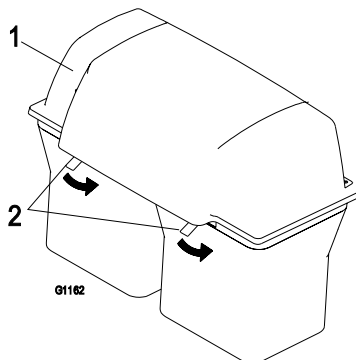

Figure 8
4. Lower the hood onto the bags. Then push down on both bagger retainer latches until they lock on the bag frame as shown in Figure 8.